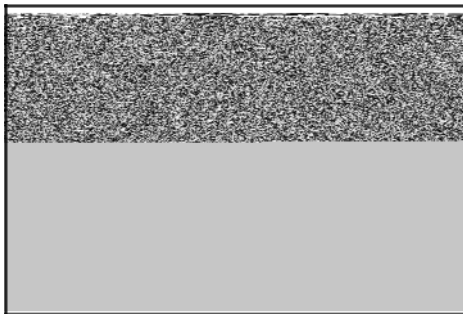

Figure 59
6. If equipped, remove the idle mixture screw with spring (A, Figure 59) and the idle speed screw with spring (B).